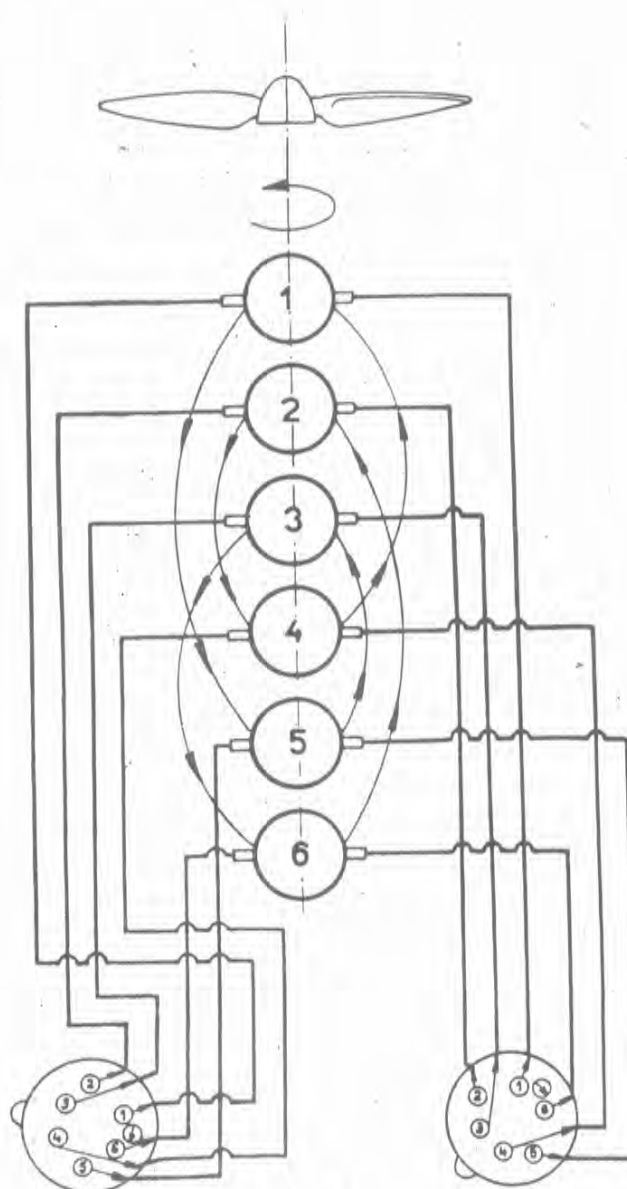

Fig. 8.
- Fig. 8 - Ignition Cable Wiring and Cylinder Firing Order